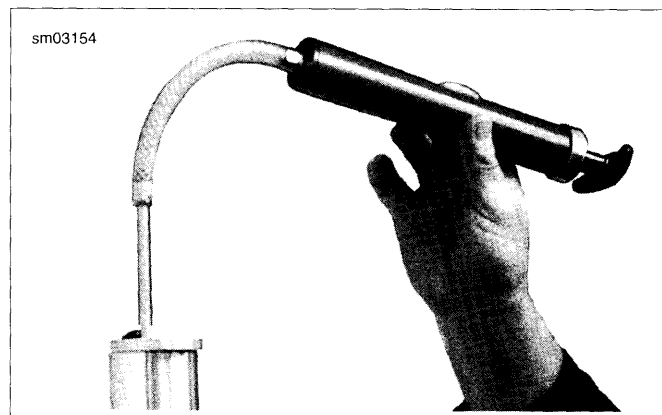

Figure 2-171. Measure Fork Oil
4. See Figure 2-171. Fully compress fork and adjust the oil level to specification from top of fork tube using OIL LEVEL GAUGE (Part No. HD-59000B). Refer to Table 2-20.